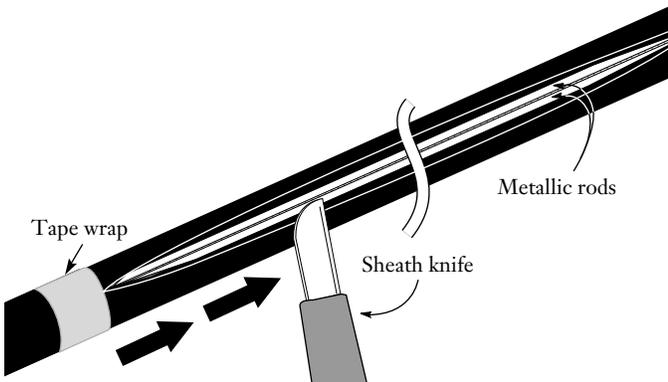

Figure 27
7.4 Using a cable knife, shave off the sheath over each set of metallic rods between the tape wraps. Shave off the sheath until the metallic rods on both sides of the cable are completely visible (Figure 27).